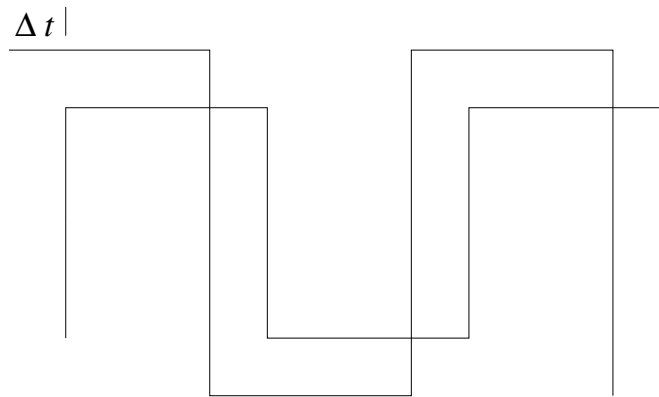
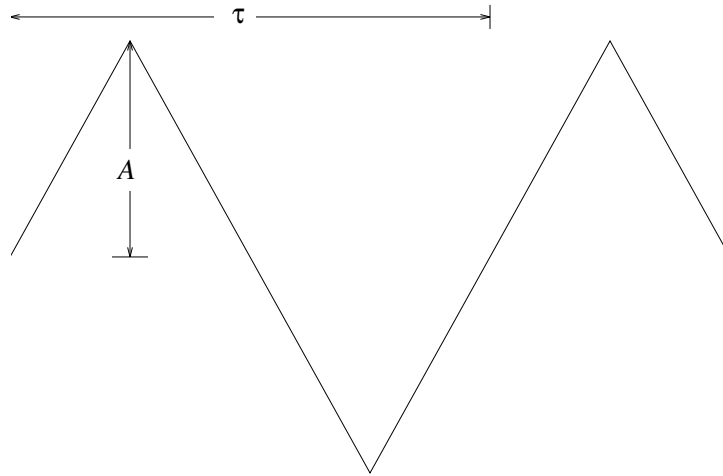

Figure 4.6: A phase difference between two square waves.
Figure 4.7: A triangle wave.
The concept of phase difference (but not phase angle, this isn't a trigonometric function!) can clearly be applied to two square waves of the same frequency, see Figure 4.6. Finally, we also have the *triangle wave* in Figure 4.7. We leave it to the interested student to write the triangle wave down in mathematical form. Note that, once again, phase difference is meaningful for triangle waves of equal frequency.
**Question 2:** Also examine the triangle waves produced by the function generator; compare the triangle waves to those illustrated in Figure 4.7. Does the shape vary with the frequency? Illustrate as necessary.